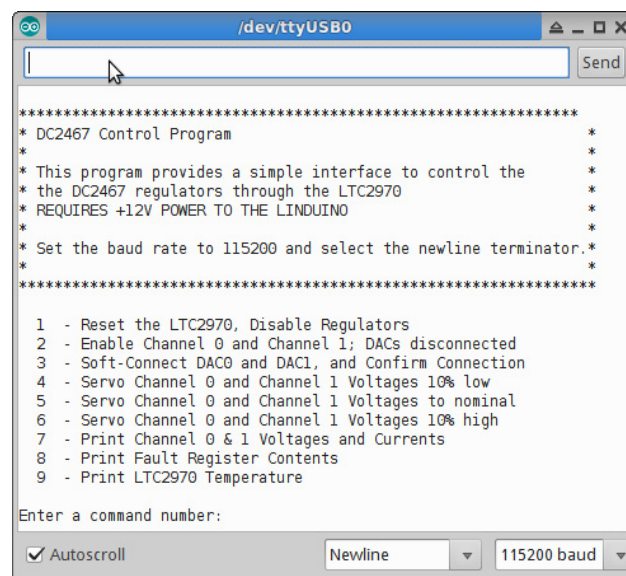

Figure 5. Serial Monitor Showing the Menu from the Linduino and the DC2467
Now the Linduino is running the desired code and ready to command the LTC2970. The primary user interface is the serial port, which sends and receives simple ASCII characters to the PC and can act on simple menu-driven inputs and return basic responses (Figure 5).
When the Arduino software is configured correctly, the Linduino prints a menu in the serial monitor window (Figure 5). Select one of the menu actions by typing its number in the command line at the top of the window and pressing ENTER.
7. Type a Linduino menu command number to execute the code (Figure 5).